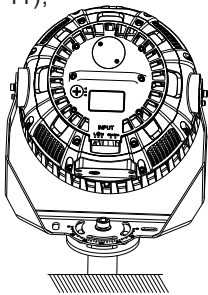

Figure 10
1. Fix the product on the disc holder and lock the screws, no need too tight. (Figure 10);